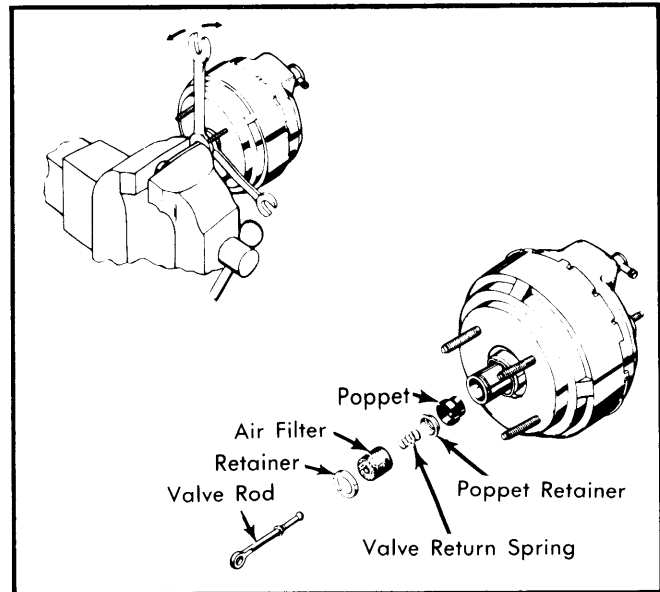

Fig. 1 Valve Rod Disassembly Showing Way to Pry Air Valve Off Ball End of Rod and Exploded View of Valve Rod Components
- 6) Leave room for two wrenches between vise and rear plate hub. See inset in Fig. 1.